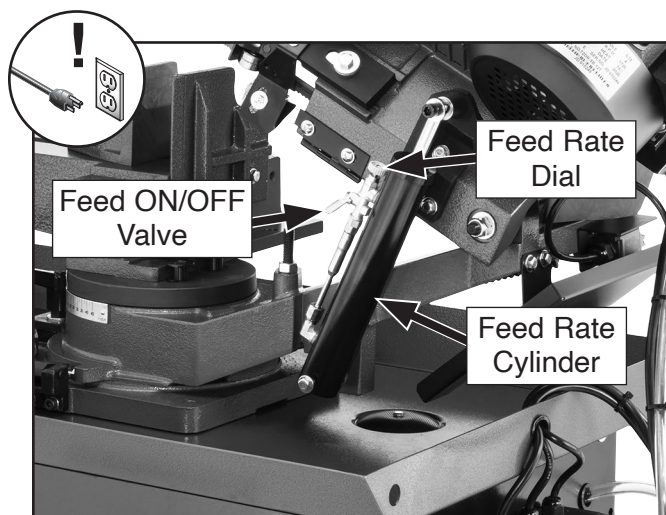

Figure 47. Location of feed rate components.
2. Raise headstock to maximum height to remove spring tension and close feed ON/OFF valve (see **Figure 47**) to lock headstock in place.
- Open feed ON/OFF valve to lower headstock until it is a few inches above workpiece, then close valve (see **Figure 47** on **Page 33**). Valve is open when it is parallel to feed rate cylinder, and closed when it is perpendicular to cylinder.